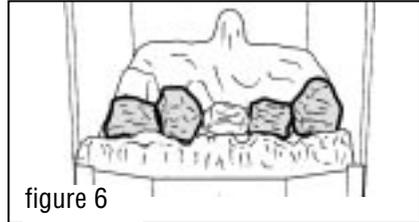

figure 6
- 4 Place two coals each side of the centre loose coal. Make sure that they bridge the space between the front and rear base coals. See figure 6.